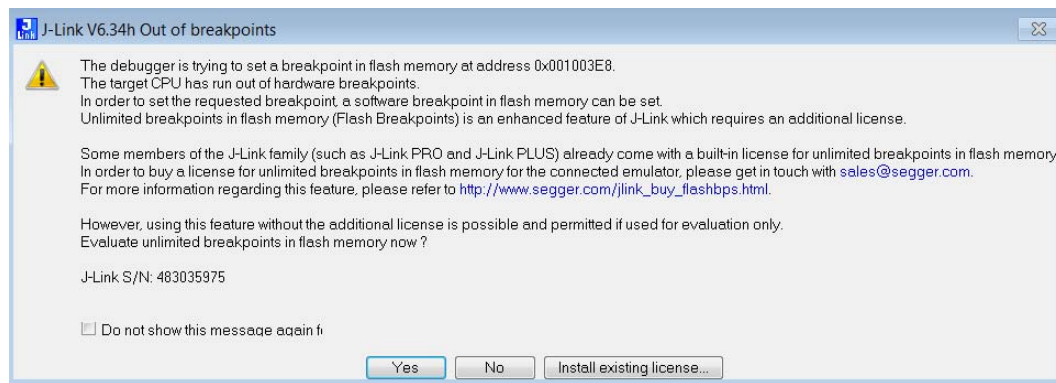

Figure 37. J-link “Out of breakpoints” pop-up dialog
- Select **Project > Download and Debug**, or click the icon shown in Figure 36, then accept the J-Link pop-up dialog in order to use the flash breakpoints (as shown in Figure 37).